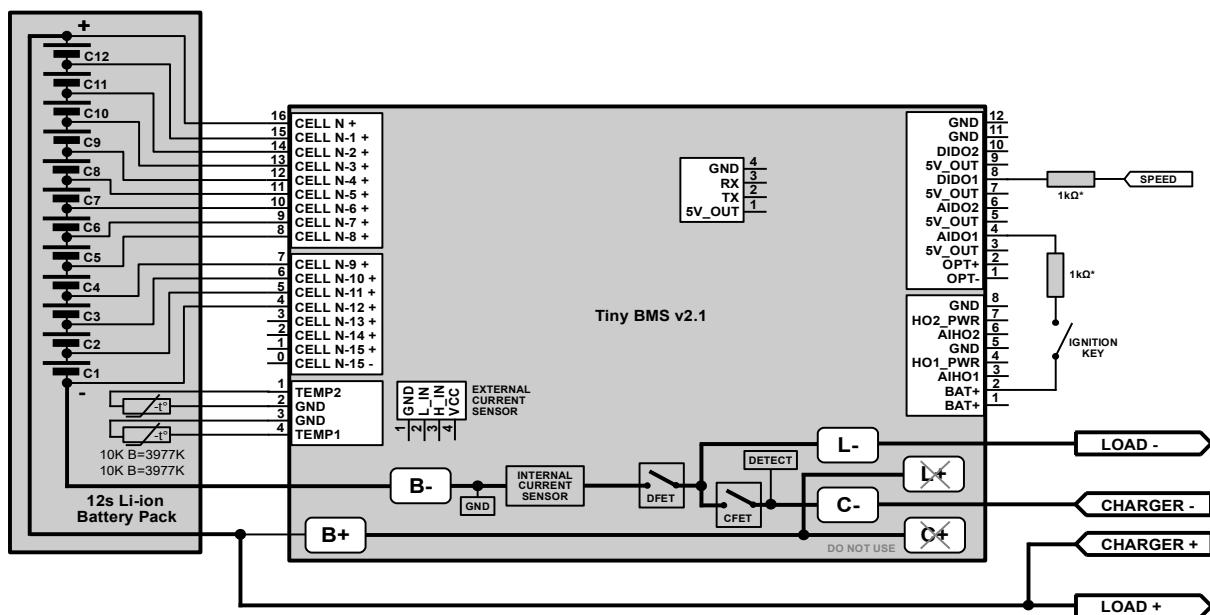

Figure 2.30: A typical *Tiny BMS* Dual Port connection diagram: low current application with internal FETs, ignition and speed sensor input features
*Tiny BMS* by default was designed to work in a *Dual Port* operation mode, where different switches for load and charger control should be used. BMS has integrated internal switches (*FETs*) for load and charger and it can be used for low current battery applications: up to 150 A discharging peak and up to 30 A charging peak current. Figure 2.30 shows a typical *Tiny BMS* connection diagram when internal *FETs* are used for load and charger control.
In Figure 2.30 reference design *Tiny BMS* is connected to a 12s Li-ion Battery pack. Battery pack has integrated two NTC temperature sensors, which can be connected to *Tiny BMS* external temperature sensor channels. Load and charger are controlled (turned on and off) using *BMS* internal FET switches. Take a note, that *BMS* internal DFET and CFET are connected in series, that's why charger always has higher priority against load or ignition signal. If the charger is connected to the *BMS*, both *BMS* internal DFET and CFET switches are turned on, even if the load should be disconnected by the ignition signal. Use of *Ignition* feature is always recommended to enter *BMS* device deep sleep mode to achieve lowest *BMS* power consumption. *Tiny BMS* solder-pads L+ and C+ are recommended only for low power 30 A *Tiny BMS* version. For high power 150 A *Tiny BMS* version L+ and C+ solder-pads are not recommended and should be left unconnected and load / charger positive terminal should bypass *Tiny BMS* board and connect directly to battery pack positive terminal. Only thin wire should be connected to *Tiny BMS* board B+ solder-pad only for powering internal *BMS* circuitry.